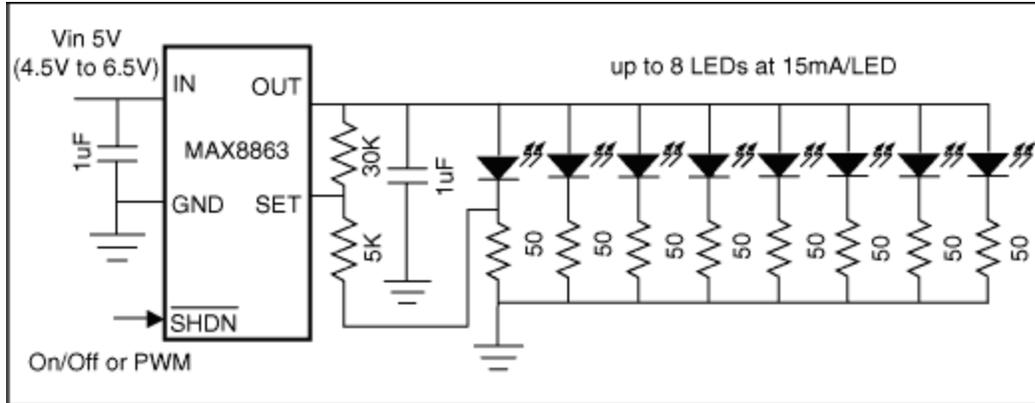

Figure 3. The MAX8863 LDO can drive from one to 8 white LEDs at 15mA per LED with good brightness matching despite LED lot-to-lot or brand-to-brand variations.
**Figure 3** shows how to modify Figure 2 for 15mA per LED, as required by most portable backlighting applications using surface mount white LEDs. The MAX8863 will support up to 8 LEDs at 15mA per LED. Because the forward voltage of the LEDs and the voltage across the ballast resistors will be less at 15mA, the minimum input voltage is also lower.